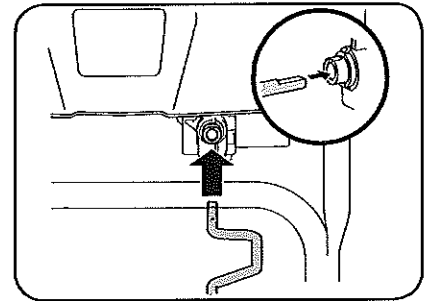

Figure 2-42
5. Insert other end of chute control rod into coupler below handle panel. Make sure to line up flat end of rod and flat end of coupler. You may need to rotate rod around until these two surfaces line up. See Figure 2-42 Inset.